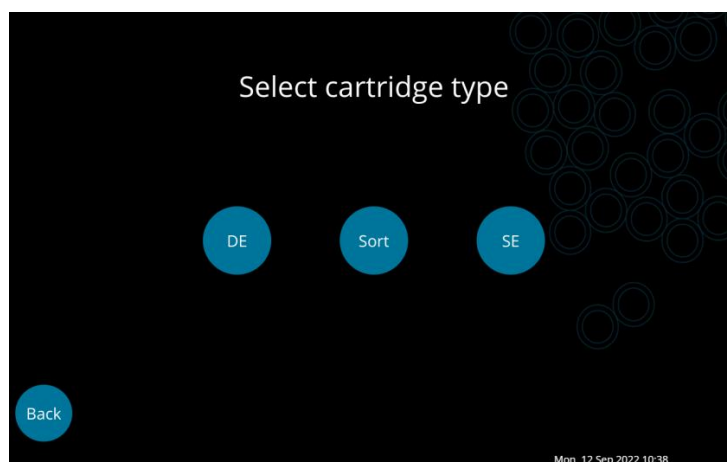

Fig. 3.7. The Select cartridge type screen. Select Sort for double-emulsion droplet sorting.
5. Xdrop Sort can operate with Xdrop DE20, DE20 Sort or SE85 Cartridges. Choose the Xdrop DE20 Sort Cartridge option by selecting Sort on the touchscreen (Fig. 3.7).